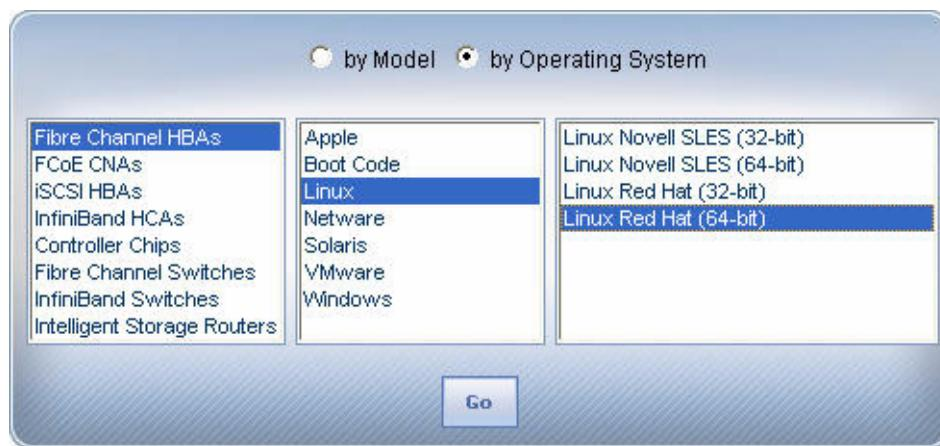

Figure 2-3 Downloading SANsurfer FC HBA Manager—Linux
2. Click the **by Operating System** button, and then select **Fibre Channel HBAs, Linux (or Windows)** OS, and the specific OS version. **Figure 2-3** shows an example of selecting Linux Red Hat® 64-bit.